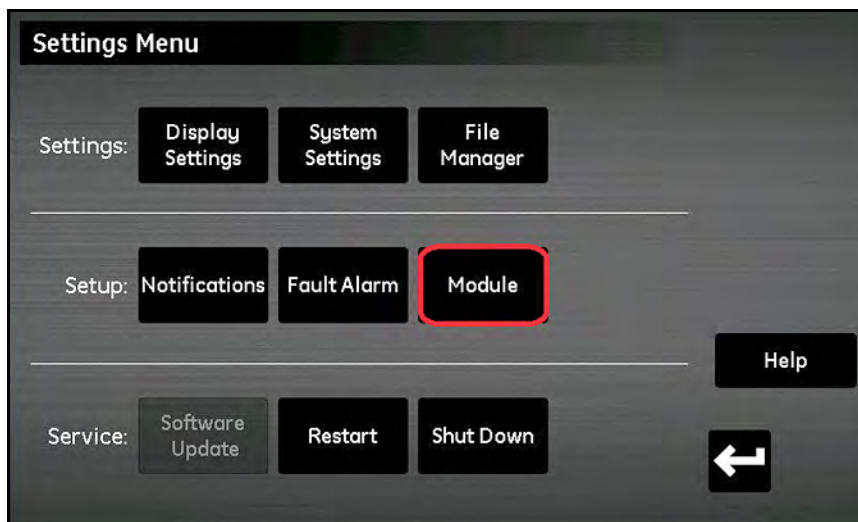

Figure 94: Module Update
4. In the **Setup** section, tap the **Module** button (see *Figure 94* below).